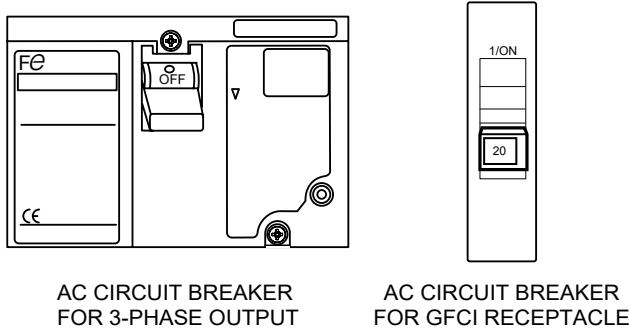

Figure 41. 3-Phase and GFCI Circuit Breakers (OFF)
2. Place the **3-phase and GFCI circuit breakers** (Figure 41) in the **OFF** position.